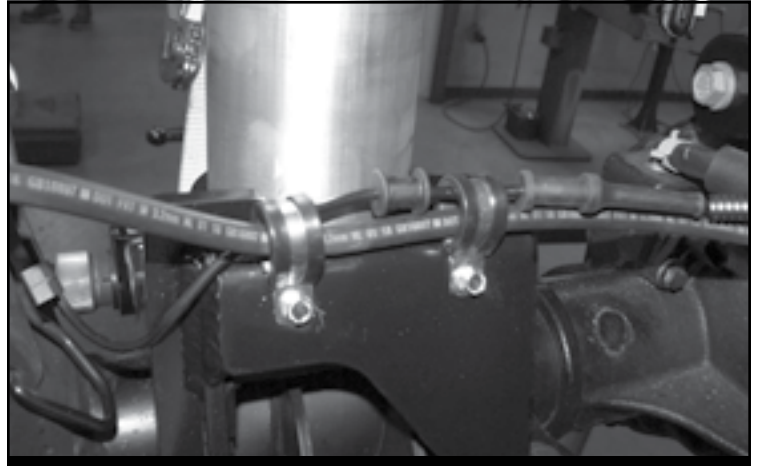

FIGURE 41 - STEP 25
25. Route the brakeline hose and speed sensor cable together and mount them to the lower mount using the supplied rubber clamps and self tapping screws. **SEE FIGURE 41**